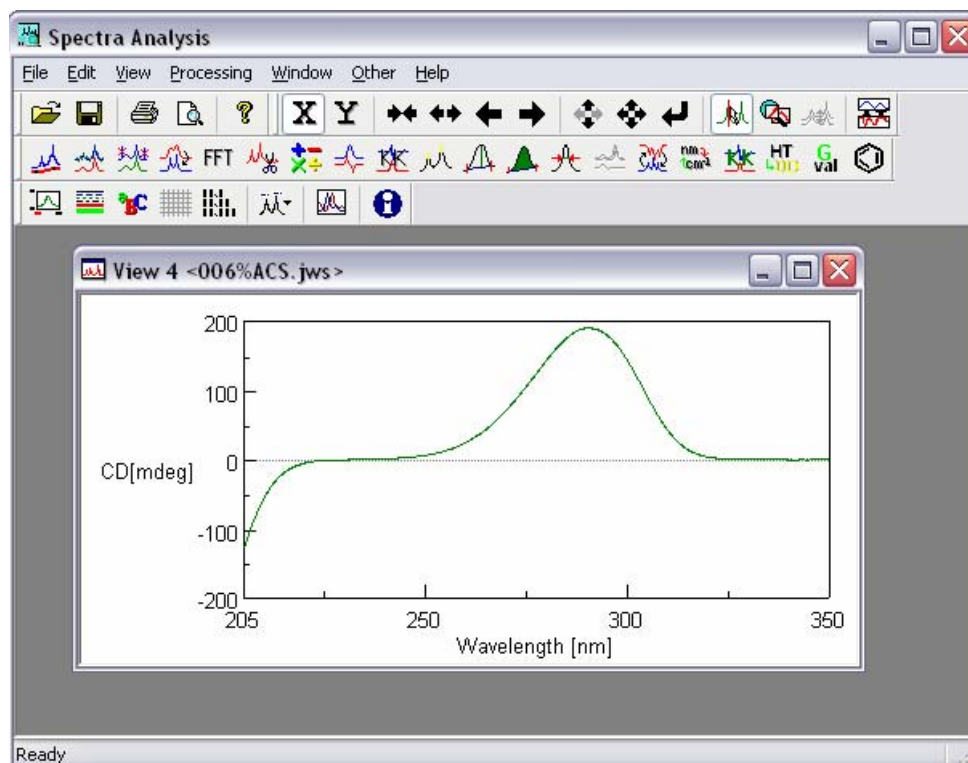

Figure 7.3 Spectrum View
- (2) Click on a file name from the [File Name] list (“006%ACS.jws”, for example).
- (3) Click on the <Open> button. A new View such as the one shown in Fig. 7.3 opens.
- (1) Load a JASCO standard or JASCO Old Std file into the Spectra Analysis Window using the procedure described in Section 7.2 (see Fig. 7.3).
- (2) Select [Processing] - [CD-Options] - [KK Conversion...]. The following dialog box appears.
[Cancel]: Stops the operation and returns to the view of loaded file (Fig. 7.3).
- (1) Load a JASCO standard or JASCO Old Std file into the Spectra Analysis Window following the procedure described in Section 7.2 (see Fig. 7.3).